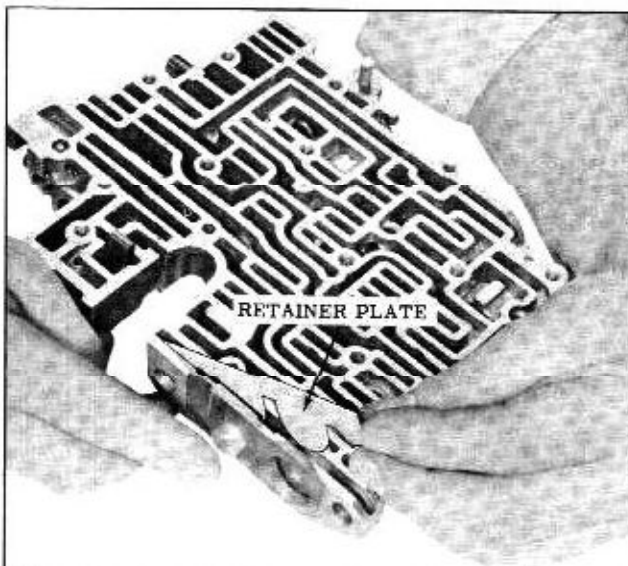

Fig. 3-97 Installing Retainer Plate
29. Install valve bore plug in valve body compressing and partially installing multiple plug retainer. Install retainer in such a manner that only one corner of the plug is retained. This will permit the installation of the remaining valves. (Fig. 3-97)